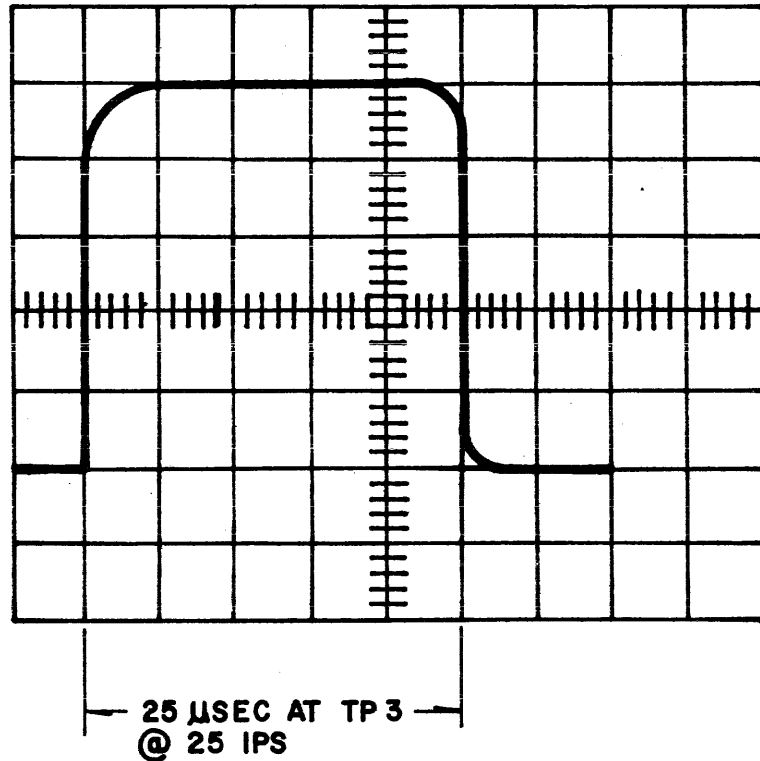

Figure 60. Read Strobe Delay Adjustment, Dual Gap Systems
4. A positive pulse will be observed at test point 3. See Figure 60. Adjust R49 for a pulse width of approximately one-half frame time. At 25 ips this should be 25  $\mu$ sec. A frame time is defined as  $\frac{1}{V}$ , where V is the transport velocity and D is the operating data density.